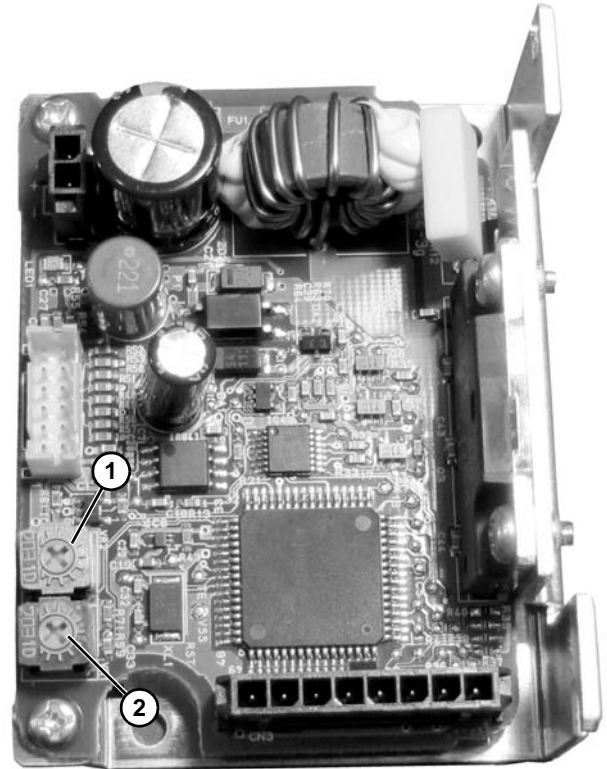

Figure 2
- Adjust desired accel/decel at driver (**Figure 2, item 1**).
- Adjust desired speed at driver (**Figure 2, item 2**).